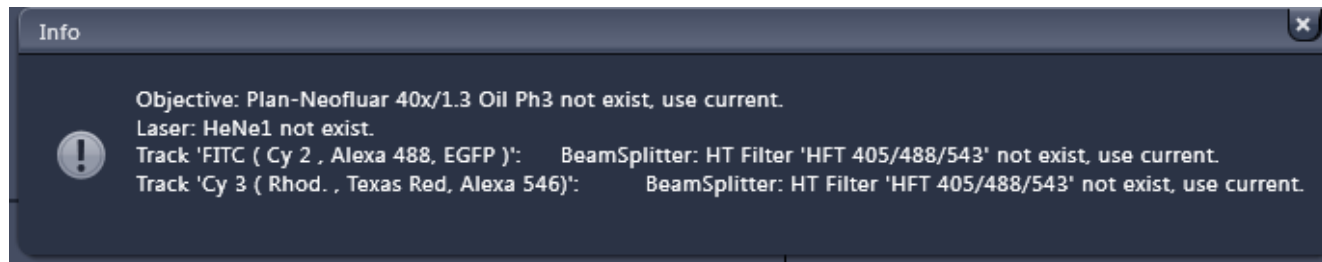

Fig. 753 Info message
- ☞ Eventual info messages (Fig. 753) fading in the right hand corner inform about missing hardware if applicable. The message box disappears after ~ 10 seconds.